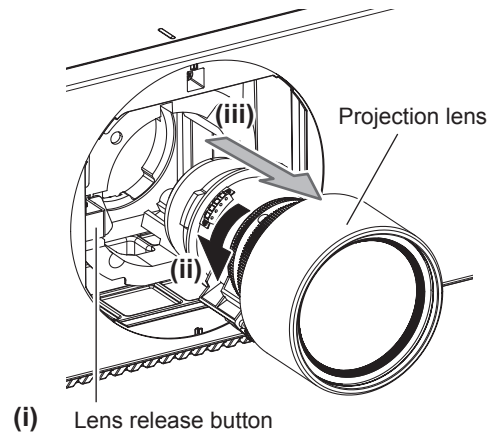

Fig. 2
- 2) While keep pressing the lens release button, turn the projection lens counterclockwise to the end and remove. (Fig. 2)